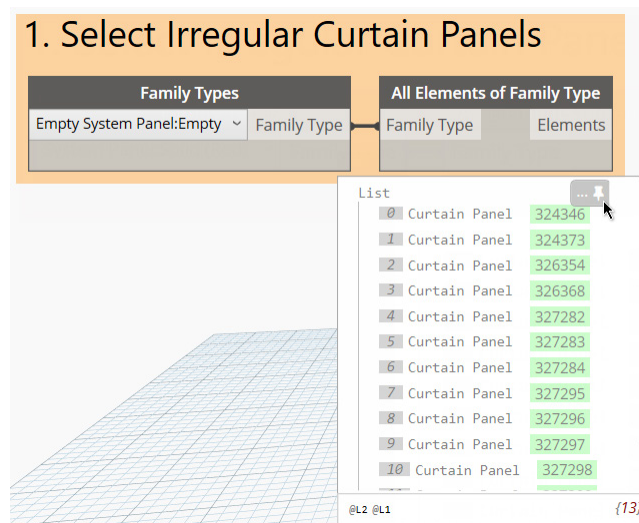

Figure 94
13. Group these two nodes and name the group: **1. Select Irregular Curtain Panels** (see Figure 94).